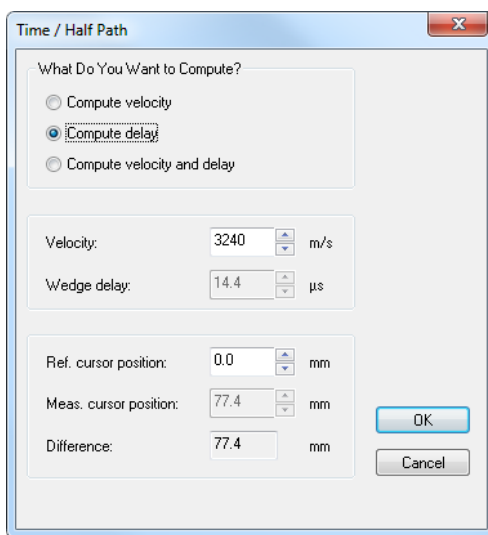

Figure 4-25 Calibrating with the Time / Half Path dialog box
7. In the **Time / Half Path** dialog box that appears (see Figure 4-25 on page 251):